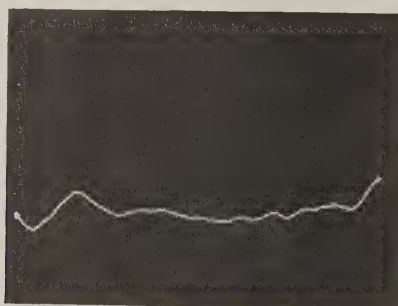

Figure 4-9. Typical Display with Display Blanking
- Oscilloscope display should be similar to typical display shown in Figure 4-9.